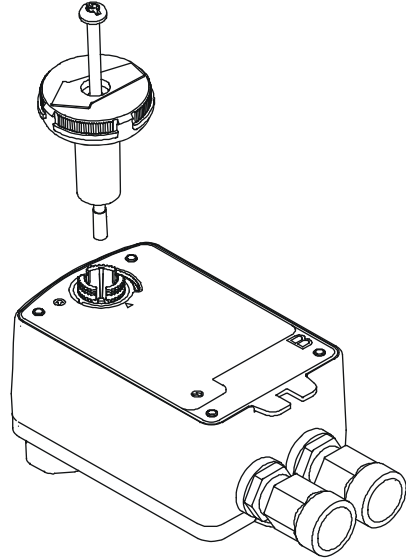

Figure 14: Installing the Fixed Pointer
6. Insert fixed pointer and M4x0.7x83 mm long screw into the Side B actuator hub (Figure 14). Direct the arrow on the pointer to 0%.